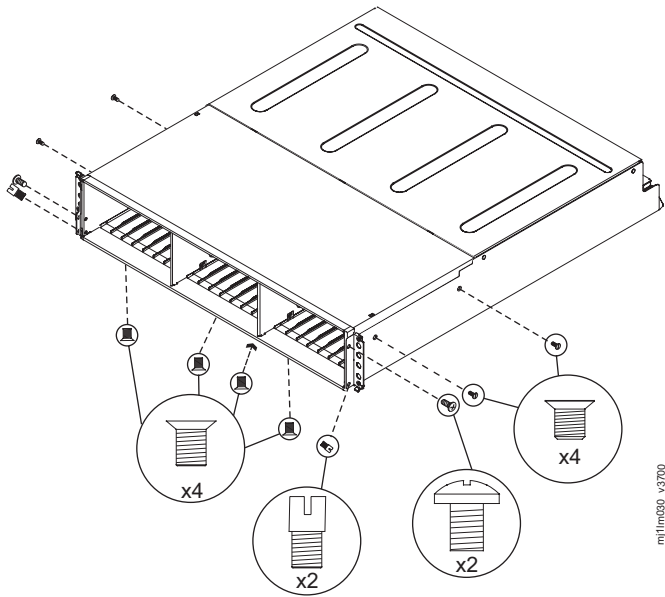

Figure 108. Removing the screws of an expansion enclosure assembly
12. Remove the four screws from the bottom of the enclosure (see Figure 108 on page 358). Remove the three screws that are near the front and the screw that is near the middle. Label these screws to indicate the location from which they are removed and place them aside.
14. Remove the three screws and one screw-pin on the right side that secure the midplane assembly to the enclosure (see Figure 108). Label the screws to indicate the location from which they are removed and place them aside.
15. Remove the three screws and one screw-pin on the left side that secure the midplane assembly to the enclosure (see Figure 108). Label the screws to indicate the location from which they are removed and place them aside. See Figure 4.